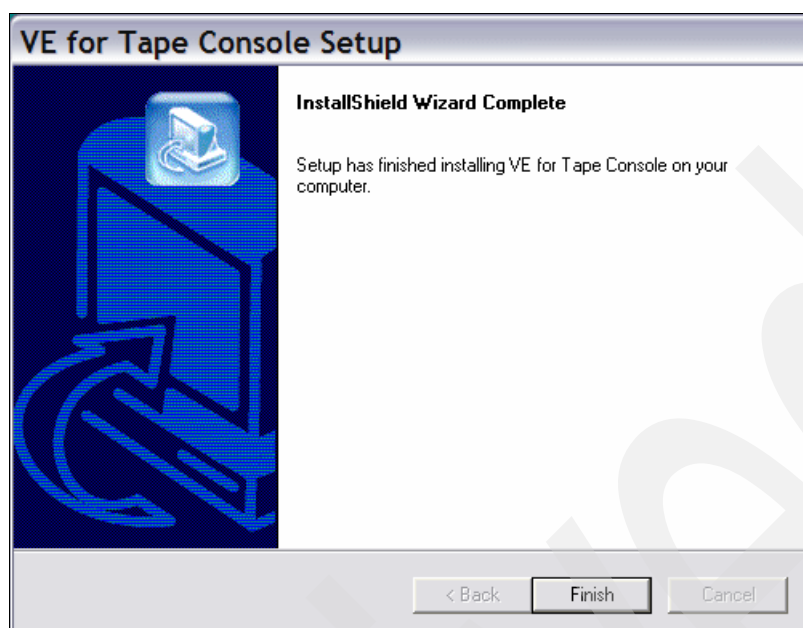

Figure 5-23 IBM Total Storage Virtualization Engine TS7510 Console: Installation complete
7. Figure 5-23 shows that the installation is completed. Click **Finish**.